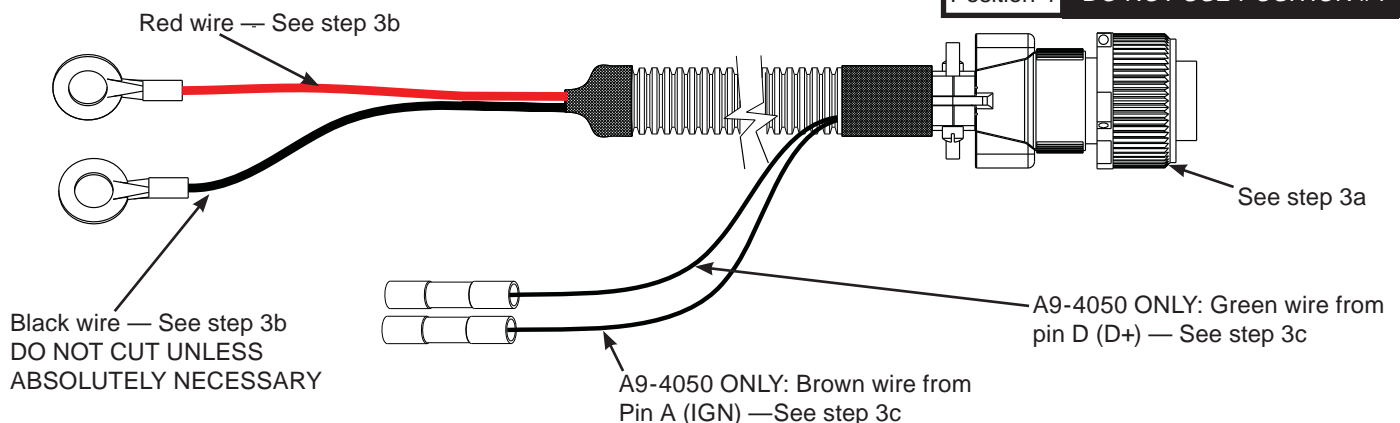

Figure 2 – A9-4039 and A9-4050 Temperature/Voltage Sense Harness Connections
- c. A9-4050 harness has two additional wire connections for regulators requiring external ignition feed or D+ voltage sense/reference signal. See Figure 2.